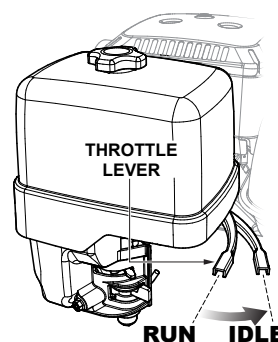

Figure 32. Throttle Lever (IDLE)
1. Place the throttle lever in the **IDLE** (slow) position, and let the engine idle for 3–5 minutes. See Figure 32.